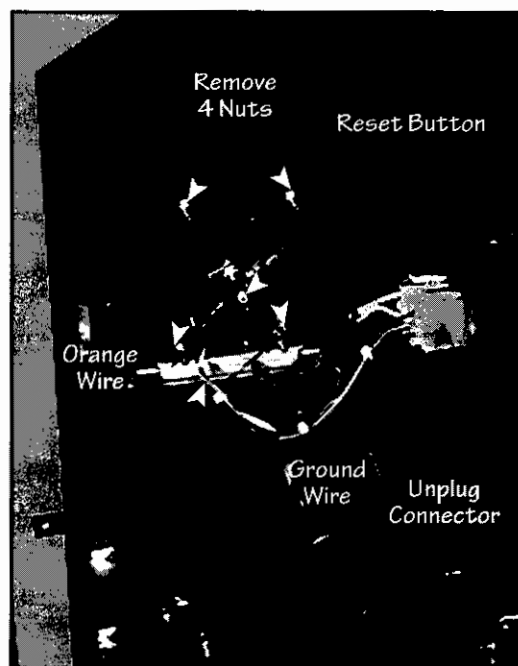

Figure 43 - Heater Removal
The heater is located in the left electronics compartment near the top of the instrument. To replace the heater, follow the steps below and refer to Figure 43. The thermal over-temperature switch is a manual reset type. This switch should only operate in an abnormal condition. It is rated for 10 cycles of operation.
- ☐ Reset manual thermostat (see Figure 43 for location of Reset button).